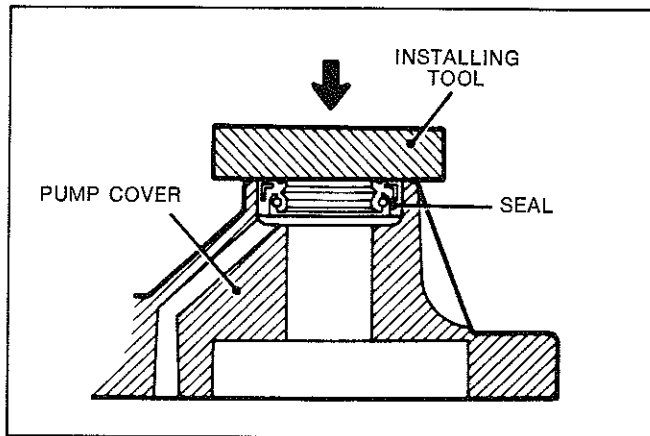

Fig. 8—Installing oil pump seal
(2) Using a suitable tool install the oil pump cover seal. Ensure the seal is fitted flush with the cover and with the seal lip facing the right way, Refer Fig. 8.